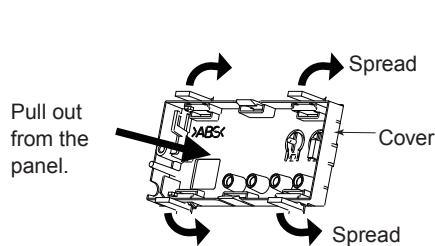
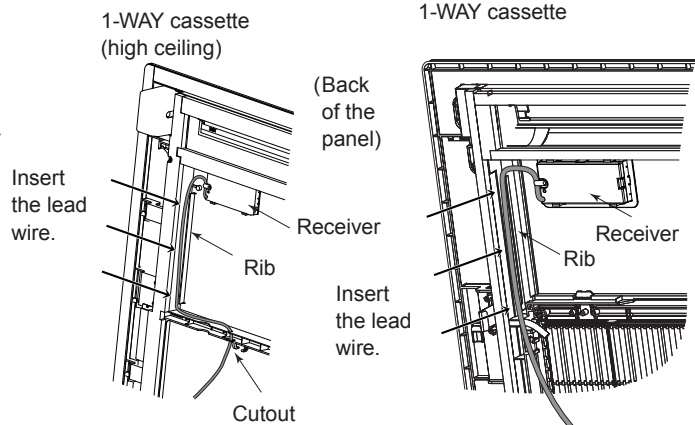
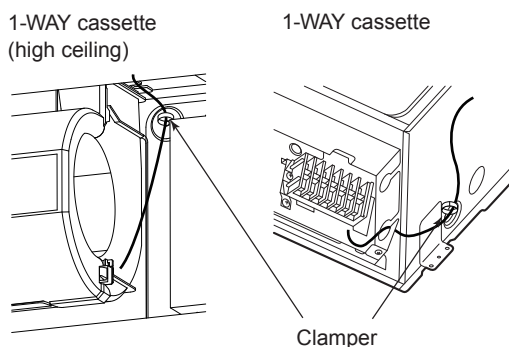

Fig. 3-2-15
Fig. 3-2-16
Fig. 3-2-17
- (1) While spreading the tabs of the cover, pull it out from the panel to the front. (Fig. 3-2-15)
- (2) When installing on the 1-WAY cassette (high-ceiling), pass the lead wire through the panel and install the receiver in the hole in the panel. (The projecting parts of the receiver are fixed in the hole in the panel.)
- (3) Route the lead wire from the receiver along the rib on the back of the panel. Pass it through the cutout. (Fig. 3-2-16)
- (4) Install the panel on the indoor unit.
- (5) Fasten the lead wire sticking out from the panel with the clamper in the indoor unit. (Fig. 3-2-17)
- (6) Draw the lead wire into the electrical box through the hole on the bottom and connect it to the remote controller terminal board.